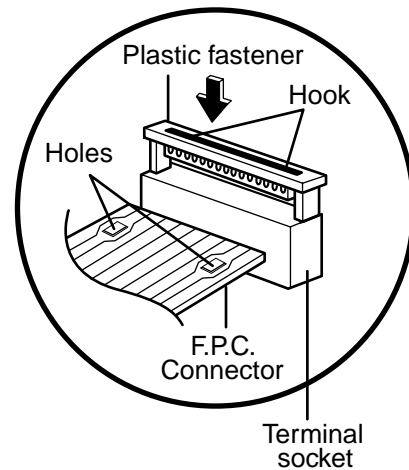

Figure 6
Follow the steps below as illustrated in Figures 6 and 7 to insert the F.P.C. connector.
- (1) Insert the F.P.C. connector into the terminal socket securely with the fingers.
- (2) Hold the plastic fastener with thumb and forefinger of the other hand, and push it slowly into the terminal socket. (Figure 6)